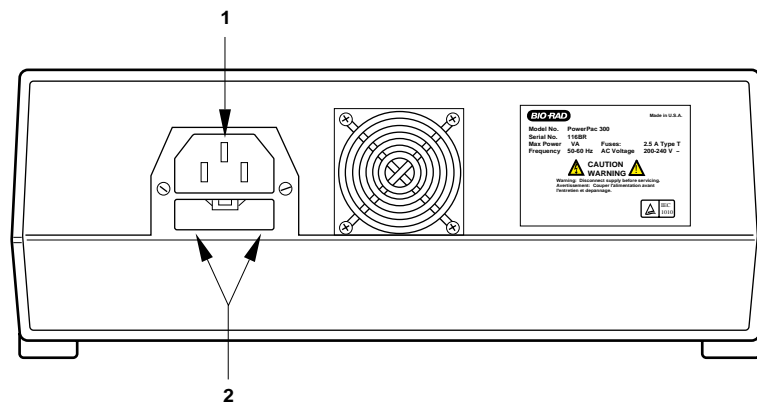

Figure 2. Location of the Fuse
2. Remove the fuse holder (labeled "1" in Figure 2 below) by pressing each side (labeled "2" in Figure 2 below) with a small, flat-head screwdriver or similar tool. The fuse holder will pop out.